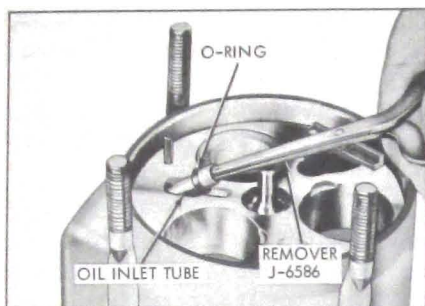

Figure 11-116—Removing Oil Inlet Tube
1. Remove oil inlet tube, using J-6586 Remover. See Figure 11-116. If tube "O" ring did not come out with tube, remove it from cylinder with small wire.